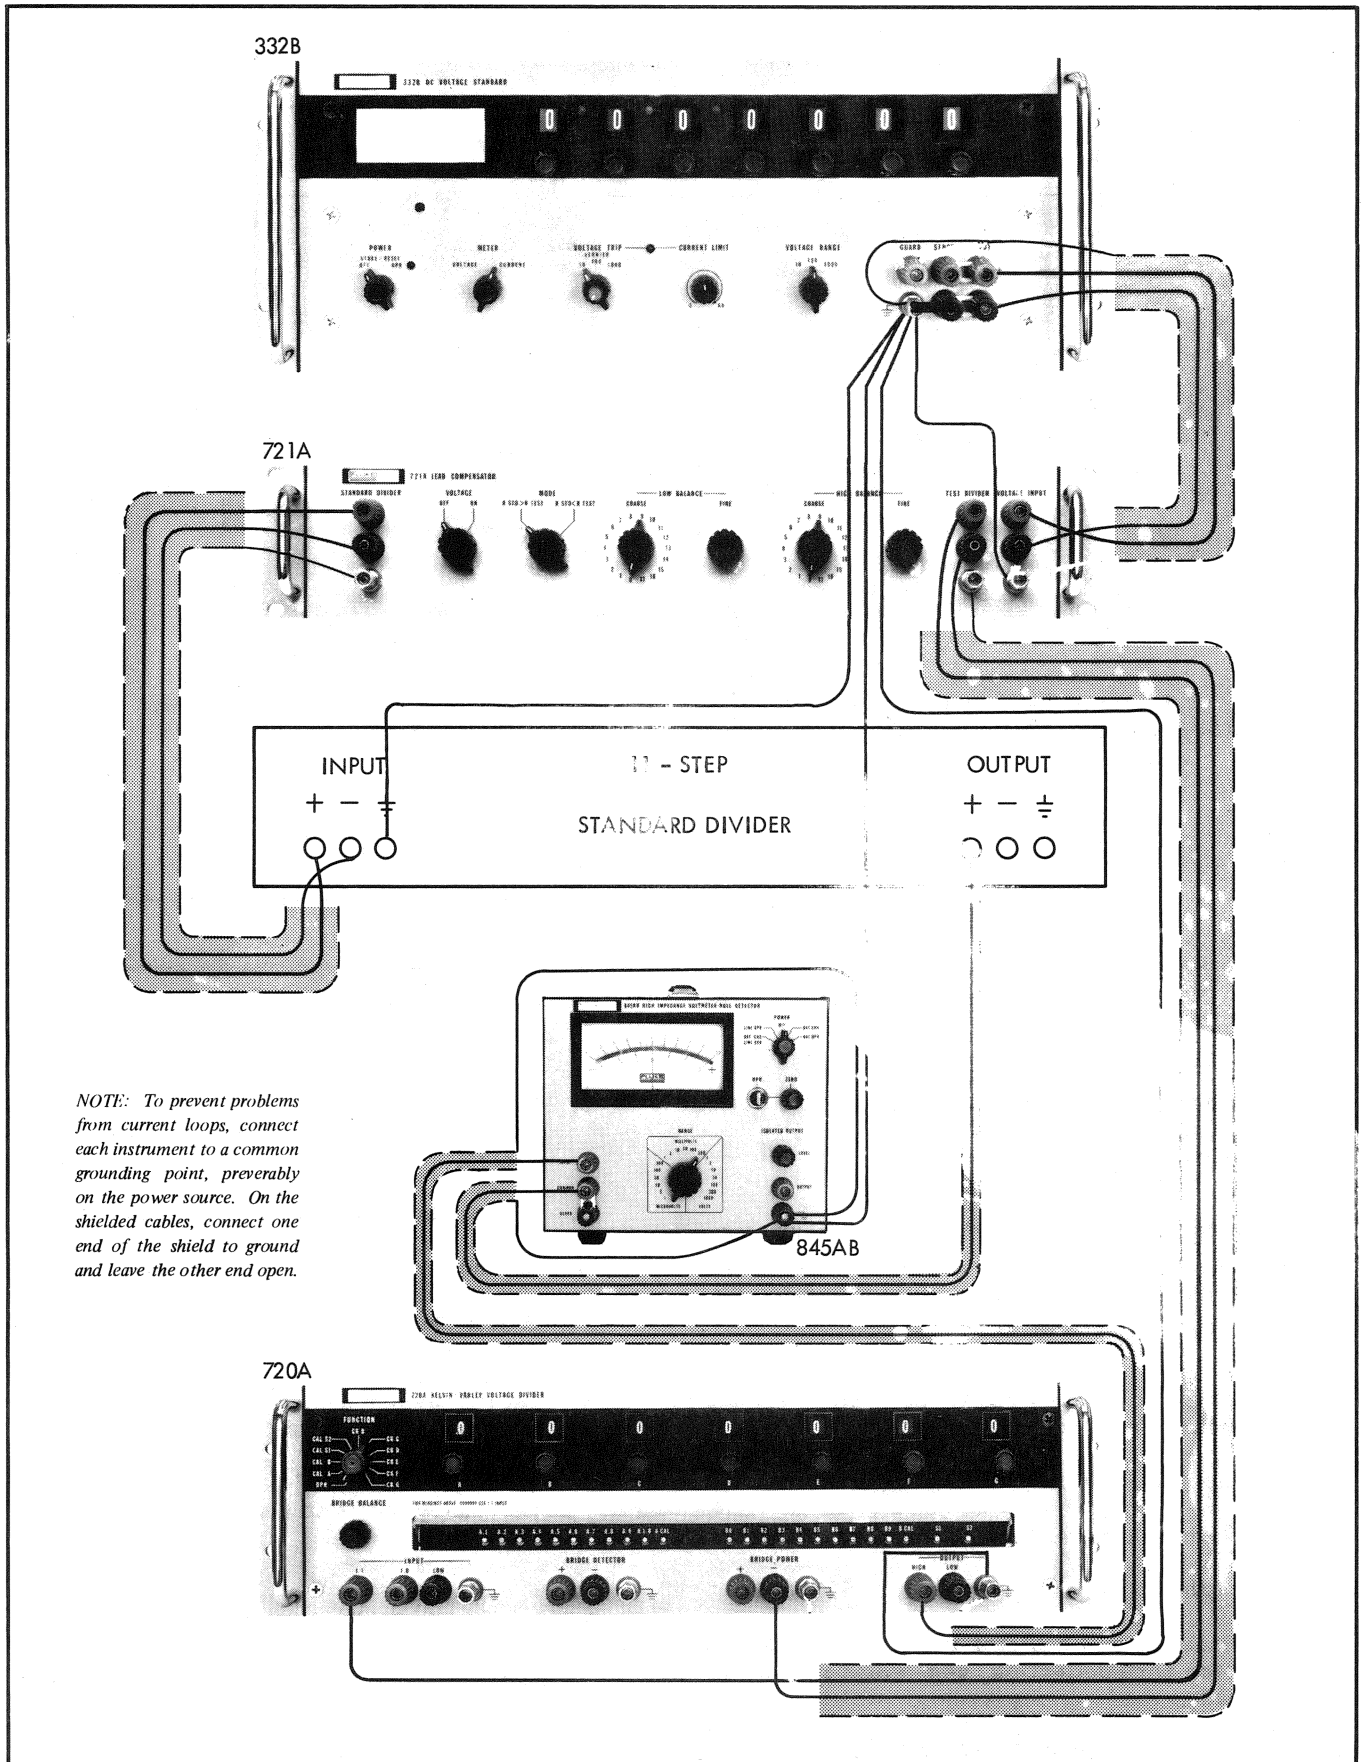
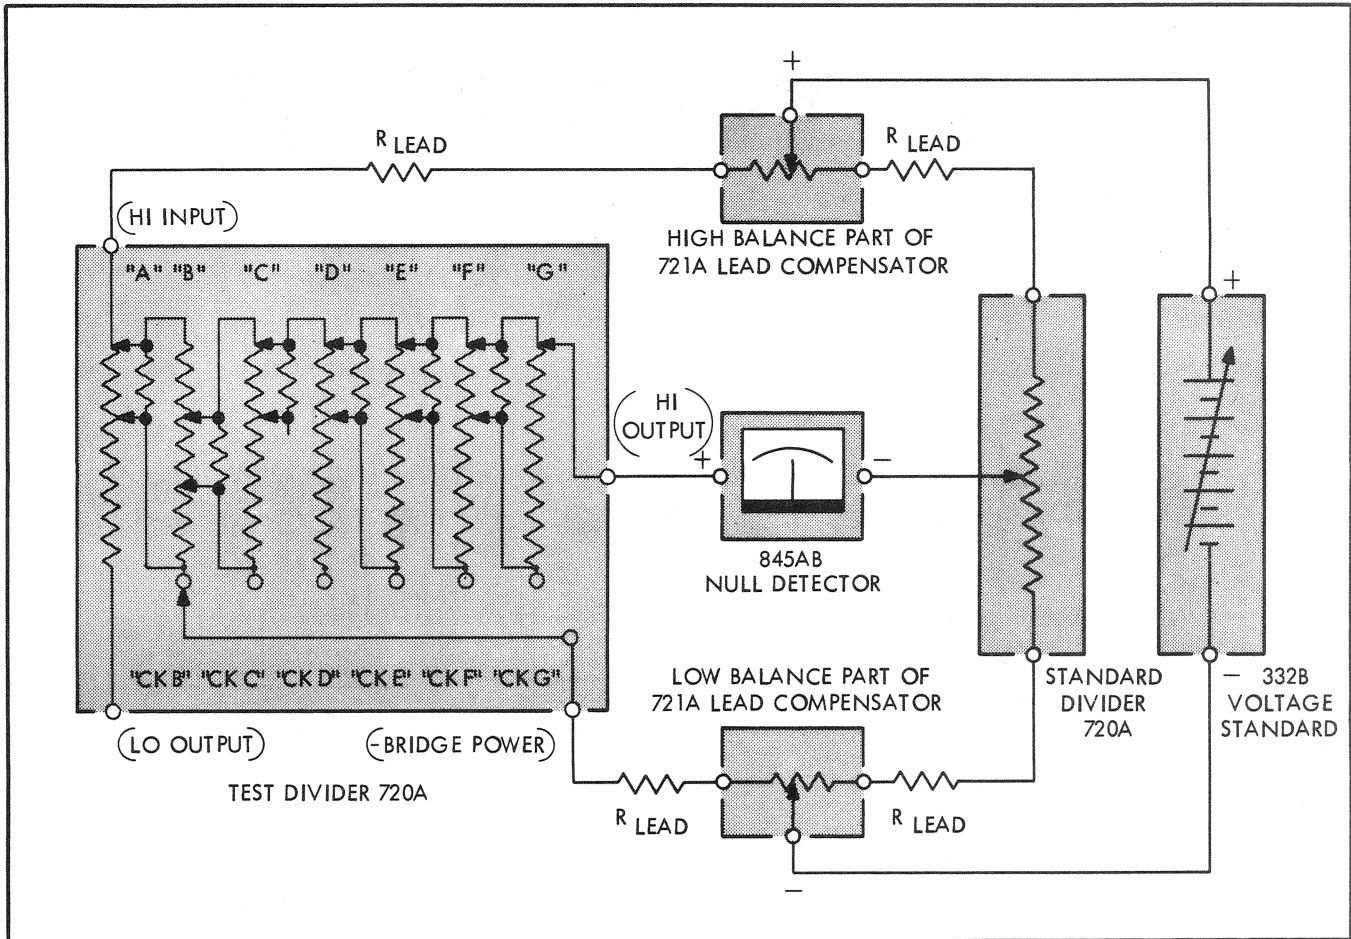

Figure 4-5. EQUIPMENT CONNECTIONS FOR DECADE LINEARITY TEST
Figure 4-6. SIMPLIFIED SCHEMATIC DIAGRAM OF DECADE LINEARITY TEST
- a. Change the test setup to that shown in Figure 4-5.
*Figure 4-6 is a schematic diagram of the test setup obtained by interconnecting the equipment as shown in Figure 4-5.*